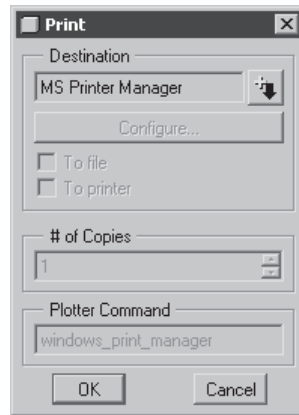

Figure 1-39 The **Print** dialog box
1. Choose the **Print the active object** button from the **File** toolbar; the **Print** dialog box is displayed, as shown in Figure 1-39 and the **MS Printer Manager** option is selected by default.